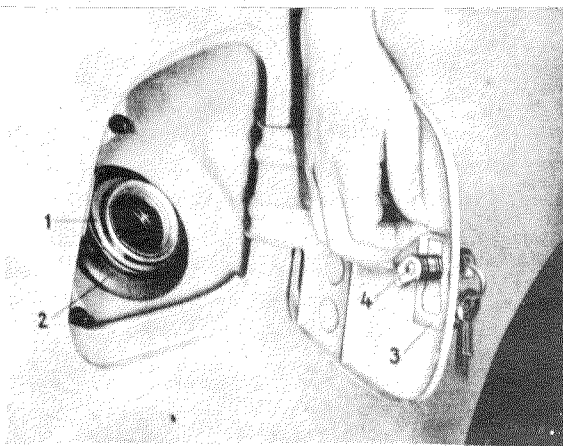

Fig. 88 — 2/1
Open the flap in the rear fender, pull up the retainer (3) for the lock (4), and remove the lock (Fig. 88 — 2/1). Unscrew the tank cap and remove the upper part (1) of the cuff. Push back the lower part (2) of the cuff and press the vent line cuff out of the fender toward the rear (Fig. 88 — 2/1).